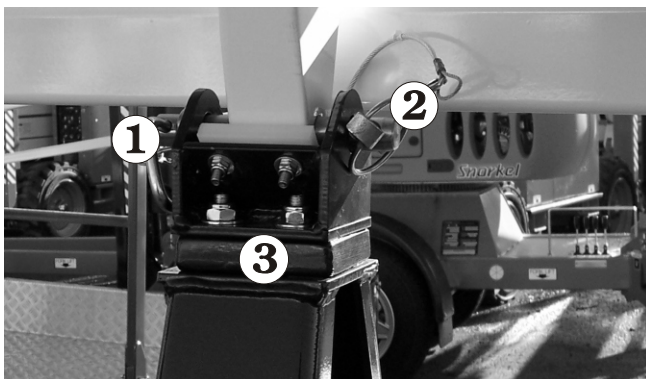

Figure 12.2 - Lower Boom Cradle Lock
2. Align the lower boom travel lock with the boom rest ③ mounted to the drawbar.
3. Insert the lower boom pin ① in place (see Figure 12.2) and ensure the pin keeper ② is correctly locked in place through the boom pin.